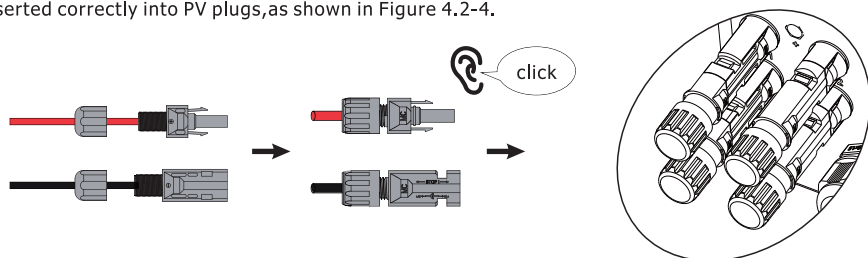

Figure 4.2-4 The PV plug is connected to the inverter
Step4. Screw the cap on and plug it onto inverter side. There will be a click sound if connectors are inserted correctly into PV plugs, as shown in Figure 4.2-4.